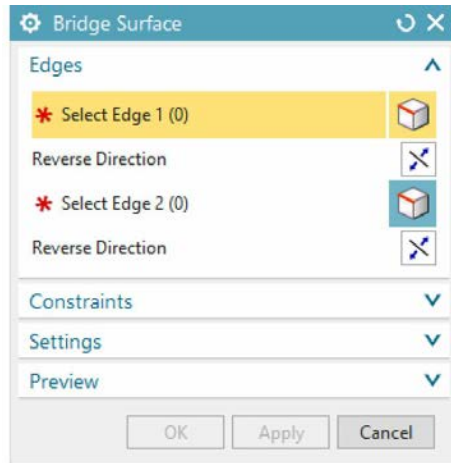

Figure 11-37 The *Bridge Surface* dialog box
1. Choose **Menu > Insert > Detail Feature > Bridge** from the **Top Border Bar**; the **Bridge Surface** dialog box will be displayed, as shown in Figure 11-37.